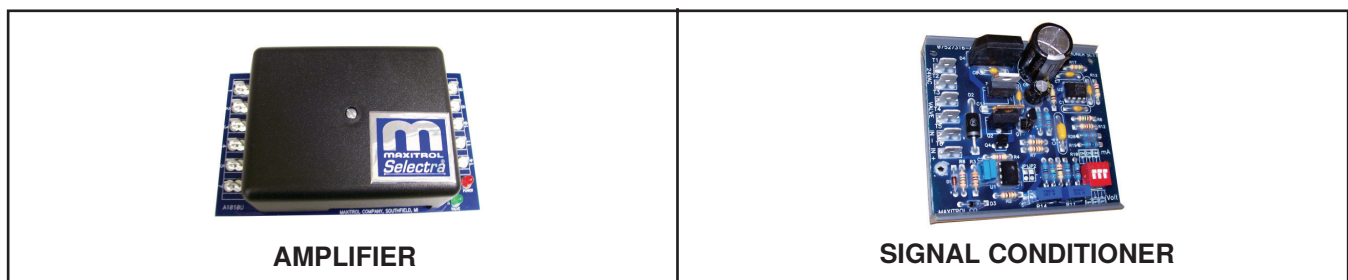
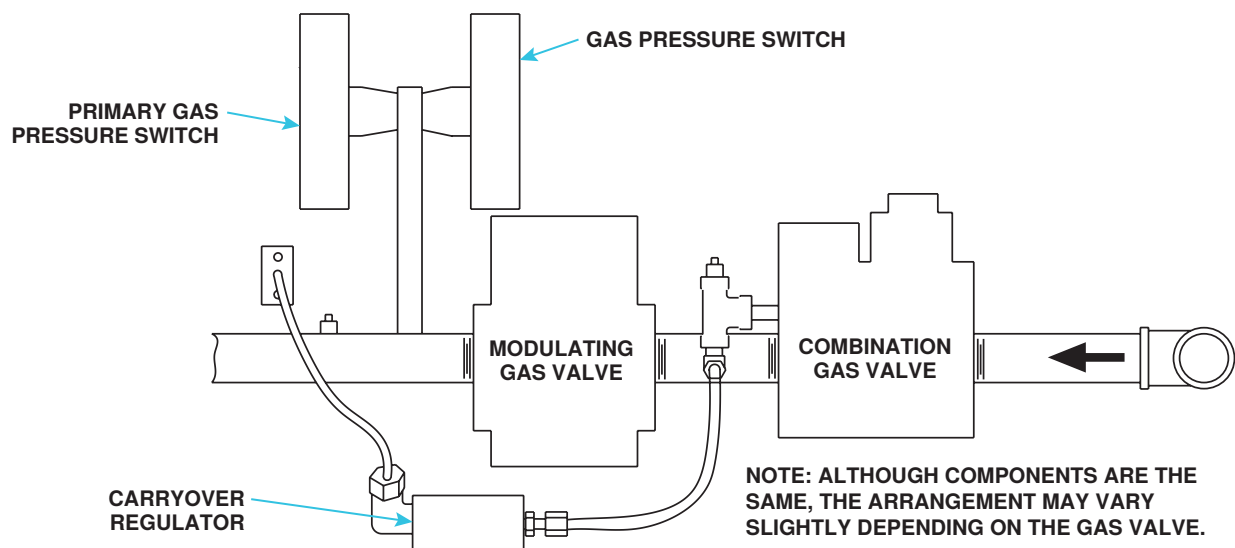

Figure 29. Maxitrol Amplifier and Signal Conditioner
Figure 30. Typical Manifold Arrangement with Electronic Modulation
- **Electronic modulation between 50% and 100% firing rate (option AG8):** Electronic modulation for makeup air application that is controlled by a duct sensor and temperature selector (55–90°F (12.8–32.2°C)). The temperature selector setting for option AG8 is on the amplifier (see Figure 29). Option AG8 is available with an override thermostat.
- **Electronic modulation between 50% and 100% firing rate (option AG21):** With option AG21, the furnace is equipped with a Maxitrol signal conditioner (see Figure 29) that operates much the same way as the amplifier above to control the regulator valve. The signal conditioner accepts an input signal of either 4–20 milliamps or 0–10V from a customer-supplied control device such as a computer. With the dip switches on the conditioner positioned to ON, the conditioner accepts a 4–20 milliamp signal. With the dip switches on the conditioner positioned to OFF, the conditioner accepts a 0–10V signal. The conditioner converts the signal to the 0–20V DC current required to control the modulating valve.
- **Electronic modulation between 20–28% and 100% firing rate (option AG39):** Depending on its size, a furnace equipped with option AG39 has a 20–28% turndown ratio. The furnace will ignite at any input rate in the available range and will maintain average thermal efficiencies equal to or greater than the thermal efficiency at full fire. The gas train (see Figure 30) includes a single-stage gas valve, a modulating valve, and two gas pressure switches. The burner rack is equipped with one flash carryover and a regulated gas lighter tube system. The carryover lighter tube receives its gas supply through the regulator simultaneously with the gas to the burner. Control of the system is through a Maxitrol amplifier (see Figure 29) with a corresponding remote temperature dial. The gas supply (refer to pressure requirements in Table 22) connects to the single-stage gas valve. To compensate for additional pressure loss through the modulating valve, the single-stage gas valve has a custom outlet pressure setting higher than when it is used on a standard gas manifold. The pilot tubing connects to the pilot port on the single-stage gas valve. When the valve receives a call for heat from the amplifier and pilot is established, gas flow from the single-stage gas valve goes to both the modulating valve and the regulated lighter tube system. When the signal from the amplifier to the modulating valve requires less-than-high fire operation, the modulating valve functions to lessen the gas flow to the burner to reduce the input rate to that which is necessary to maintain the desired temperature. When the input rate is reduced enough to decrease the gas pressure to 1.1 IN WC, the primary gas pressure switch in the manifold activates the gear motor that controls the bypass damper in the venter/combustion air system. The bypass damper opens to divert some of the incoming air directly into the flue duct to reduce air flow through the burner. Safety switches monitor the position of the bypass damper. When the gas pressure rises to >1.1 IN WC, the bypass damper closes. The duct temperature sensor is shipped loose for field installation (refer to Discharge Air Temperature Sensor Installation section to determine sensor location). This uniquely-designed modulation system requires combustion air pressure settings different from the standard system. Refer to Table 20 for the approximate combustion air proving switch settings at sea-level operation. Refer to the Troubleshooting Bypass Combustion Air Damper Safety Circuit on Units with Option AG39 or AG40 section for troubleshooting.
- **Electronic modulation between 20–28% and 100% firing rate (option AG40):** With option AG40, the furnace is equipped with a Maxitrol signal conditioner (see Figure 29) that receives an input signal of either 4–20 milliamps or 0–10V from a customer-supplied control device such as a computer. With the dip switches on the conditioner positioned to ON, the conditioner accepts a 4–20 milliamp signal. With the dip switches on the conditioner positioned to OFF, the conditioner accepts a 0–10V signal. The conditioner converts the signal to the 0–20V DC current required to control the modulating valve. The heater functions and is equipped in the same way as option AG39 except that with computer control, the temperatures are selected through the software and there is no temperature selector or duct sensor. This uniquely-designed modulation system requires combustion air pressure settings different from the standard system. Refer to Table 20 for the approximate combustion air proving switch settings at sea-level operation. Refer to Table 22 for pressure requirements. Refer to the Troubleshooting Bypass Combustion Air Damper Safety Circuit on Units with Option AG39 or AG40 section for troubleshooting.